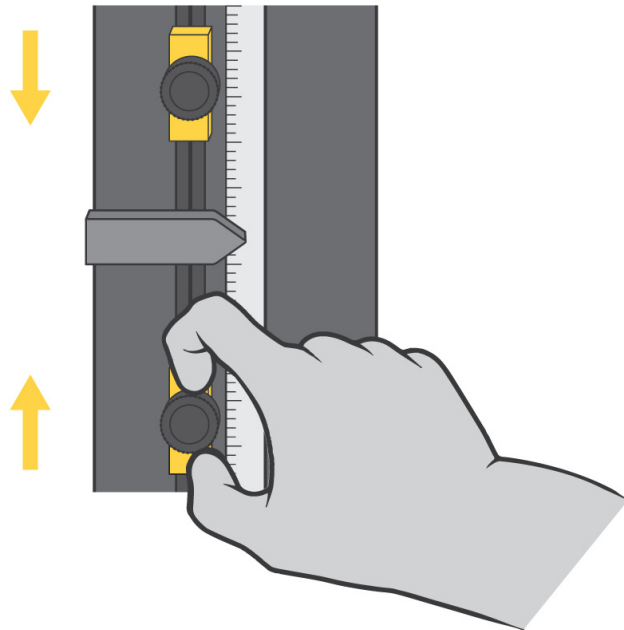

Figure 26. Setting Limit Stops
The crosshead limit stops are two adjustable blocks mounted on the limit switch rod, which is located inside the column of the machine, as shown in Figure 26 on page 124. Limit stops (1 and 2) have thumbscrews that you tighten and release by hand, and you can move them to any position on the limit rod. Position these stops just beyond the test parameters to prevent crosshead over-travel. When the crosshead reaches the maximum pre-set travel, the limit switch actuator (3) contacts one of these stops. Contact between the limit actuator and the limit stop moves the limit switch rod (4) and activates the limit switches. This stops crosshead motion.